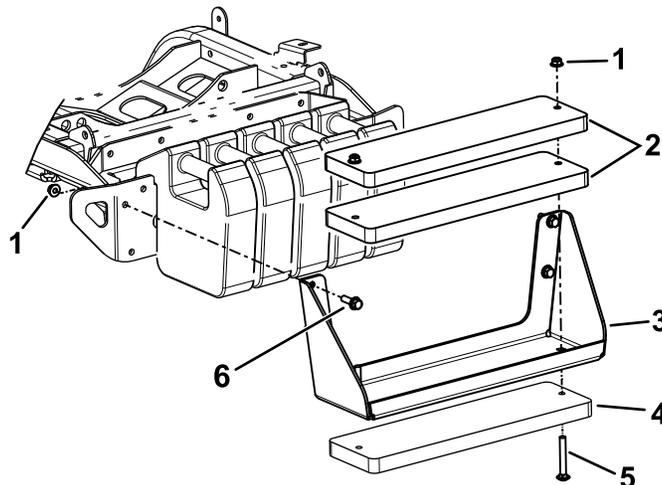

Figure 22
Note: Refer to Figure 22 for these steps.
- A. Use the bolts (3/8 x 4 inches) and nuts (3/8 inch) to secure the 3 weights to the bracket (Figure 22).
- B. Use the hex-head bolts and nuts (included in the kit) to secure the weight bracket to the machine (Figure 22).
- A. Remove the weight bracket from the machine (Figure 22).
- C. Use the bolts (3/8 x 4 inches) and nuts (3/8 inch) to secure the 3 weights to the bracket (Figure 22).
- D. Use the previously removed hardware to secure the weight bracket to the machine (Figure 22).